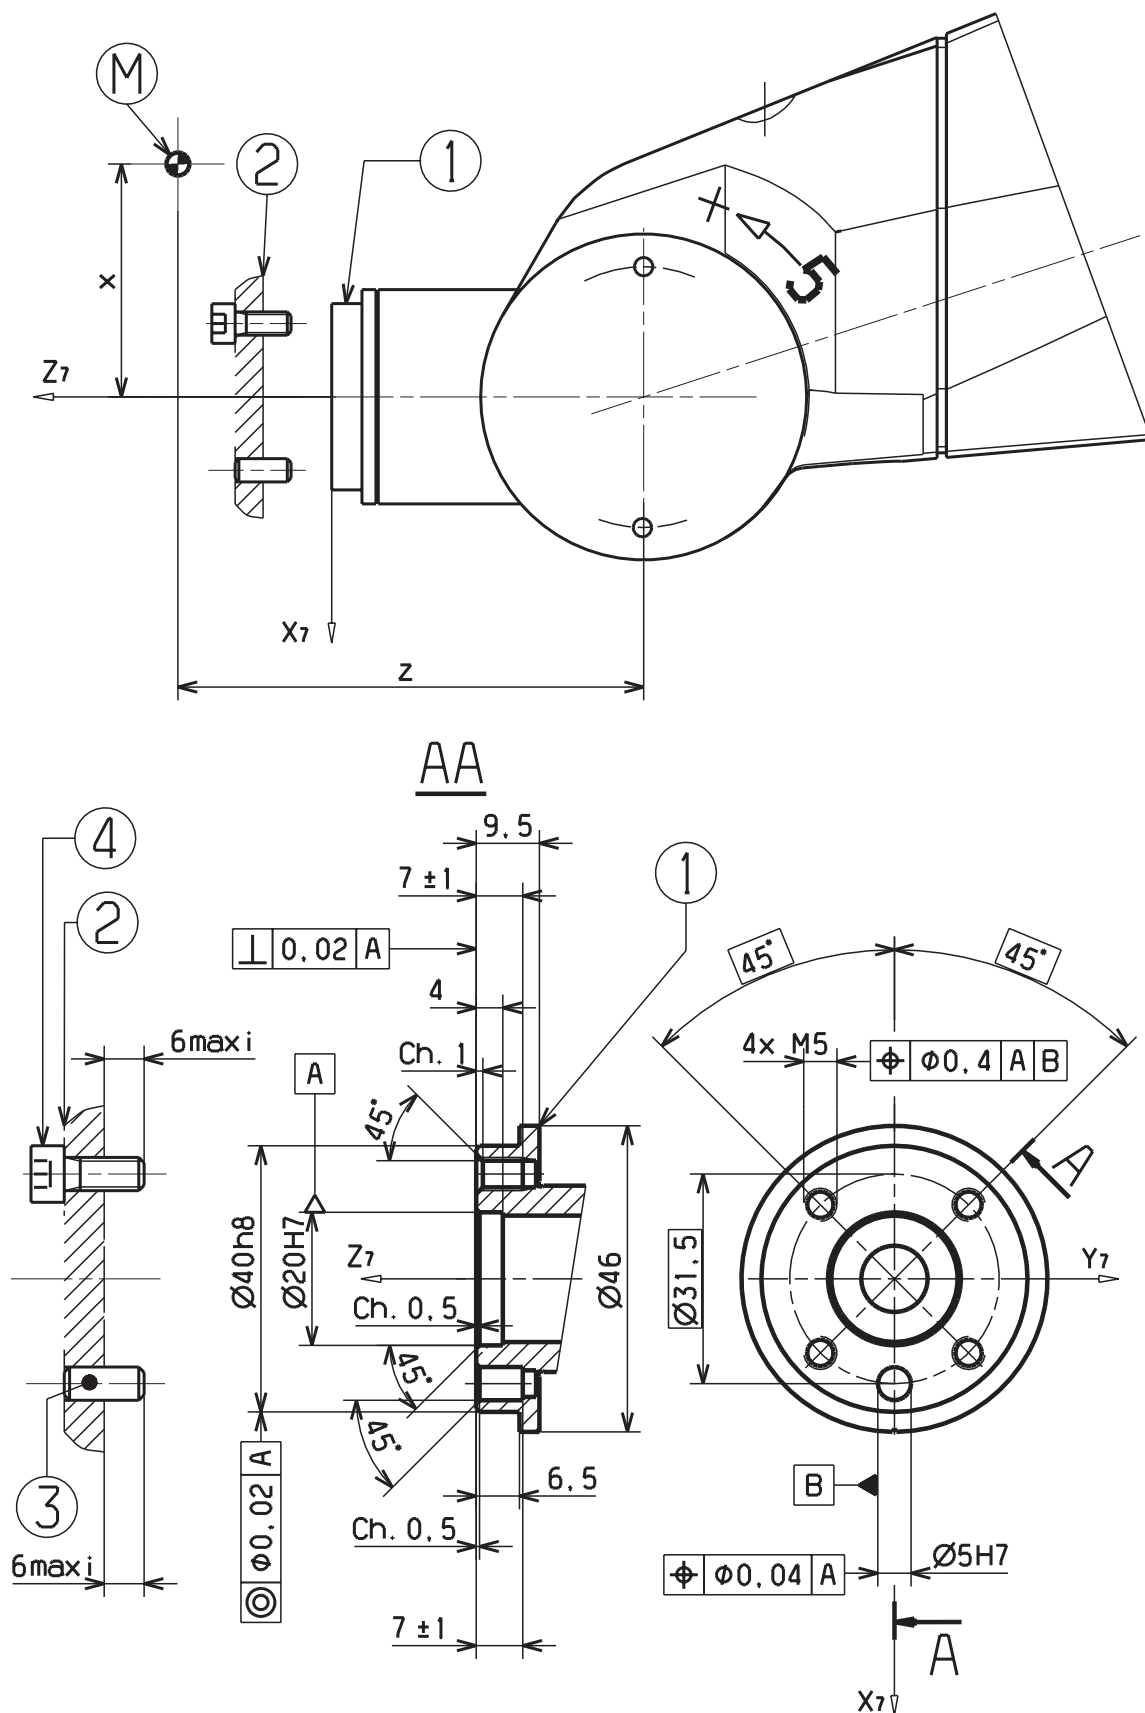

Figure 2.6
The robot hand is mounted on the wrist's login user flange whose dimensions are given in figure 2.6.
The installation length of the screws attaching the terminal is limited to 6 mm (figure 2.6).
Load center of gravity position (M): z = 100 mm from centerline of joint 5 and x = 50 mm from centerline of joint 6 (figure 2.6).